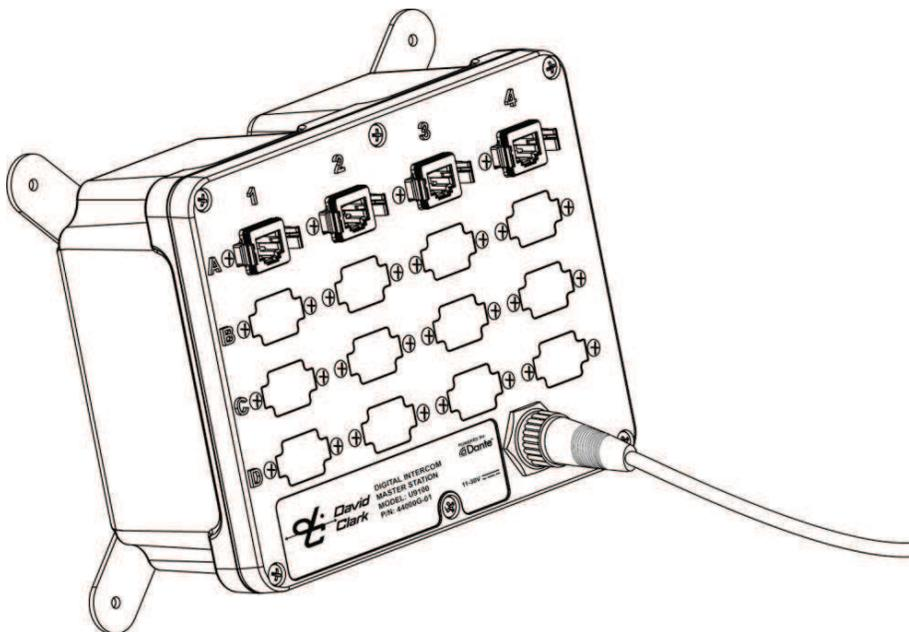

Figure 3: Master Station Power Cable Connection
- ❑ Connect the cable to the jack on the Master Station, see **Figure 3**. To connect the cable to the Master Station, align keyways and push. Then firmly turn collar clockwise until it locks into place. Pull back gently on the cable to ensure connector is properly locked.